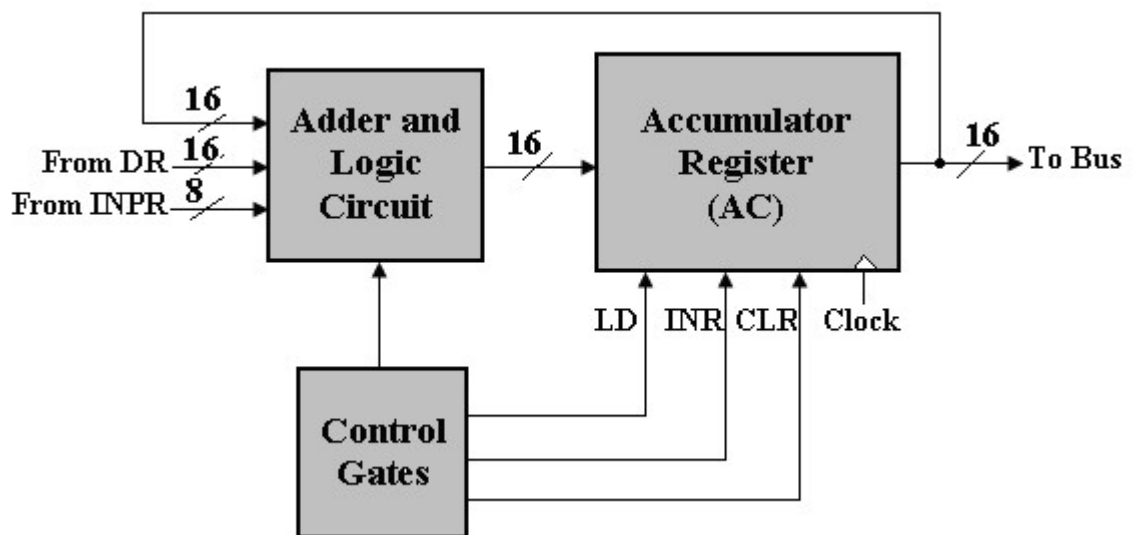

Figure 6.20
Figure 6.20 presents the circuit block diagram associated with the accumulator register (AC).